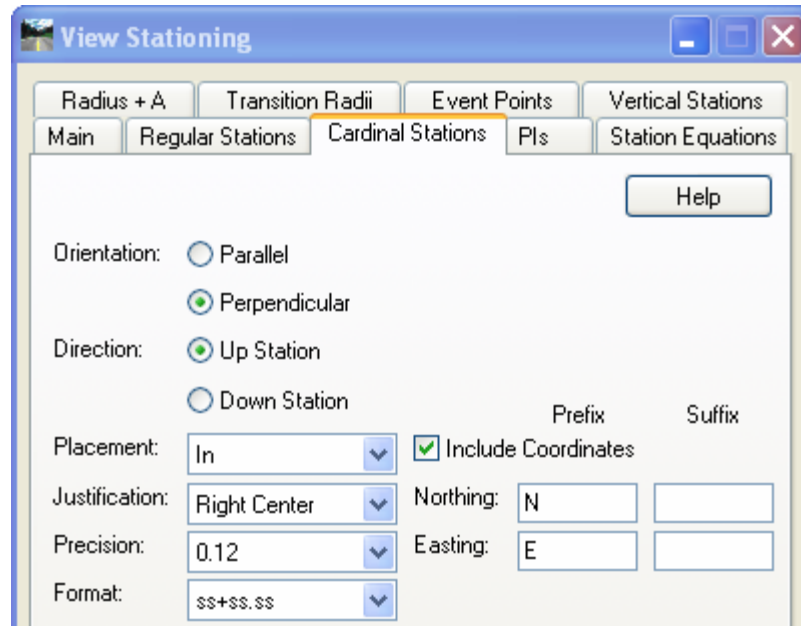

Figure 4-7 InRoads View Stationing Dialog Box
- C. Click the **Cardinal Stations** tab. The **Include Coordinates** should already be checked **ON**. See Figure 4-7.